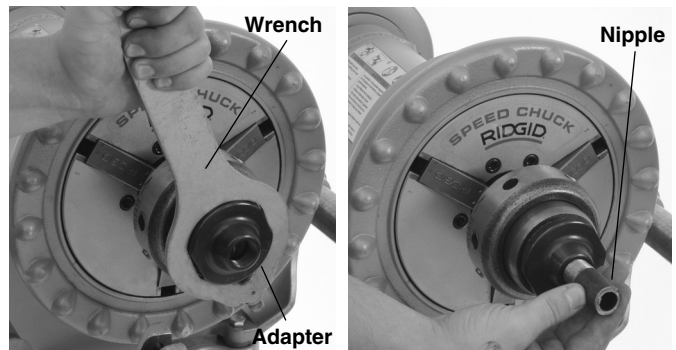

Figure 3 – Installing Nipple Chuck Adapter and Nipple
8. Install the proper size pipe adapter and tighten with the wrench (Figure 3). Remove wrench.